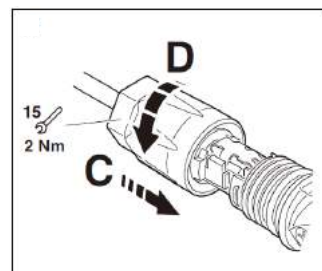

Figure 5-12
6. Push the insert into the sleeve (Figure 5-12,C).
7. Tighten the cable gland to 2 Nm (Figure 5-12,D). Use a suitable and calibrated torque wrench,size 15. Use an open-jaw wrench, size 16, to hold the connector in place.